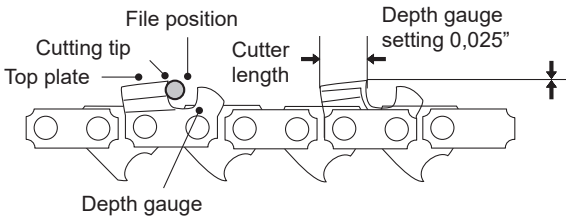

Fig. 42
- > Use a depth gauge measuring instrument to check the height of the depth gauge. Depth gauge measuring jigs are available from most reputable tool merchants (Fig. 42).